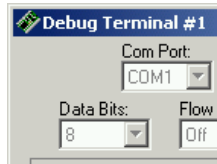

Figure 7-6
- ✓ Set the COM Port field in Stamp Plot Lite to that same value. Figure 7-6 shows an example where the value is COM1 in the Debug Terminal, so Stamp Plot is also set to COM1. Your COM port value may be a different number.